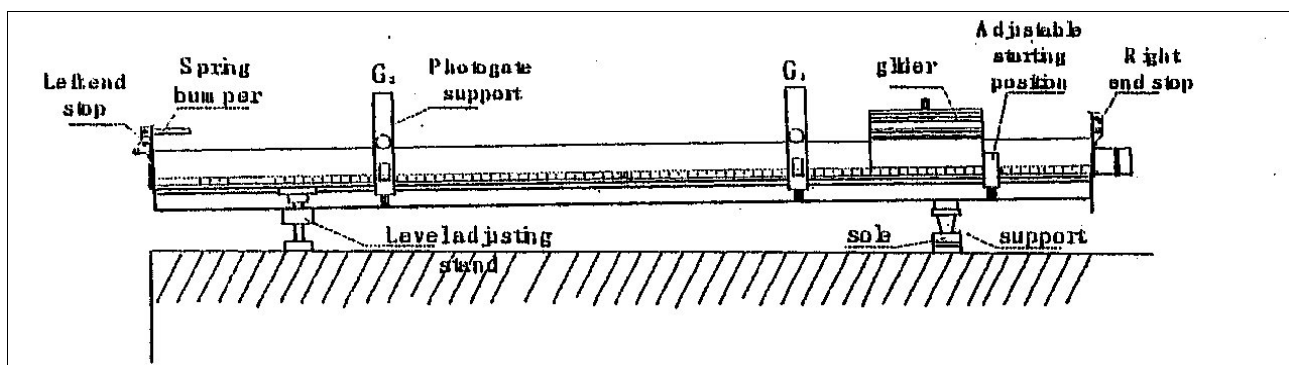

Figure 4.2: Acceleration
- Step 1: Set up the apparatus as shown in Figure 4.2. Level the track as described in paragraph 3.3. Incline the track by placing the short rise block under the single support. Install the starting position bracket at a convenient position on the high end of the track, and a spring bumper on the low end. Install two photogate at about the 30cm and 90cm positions.